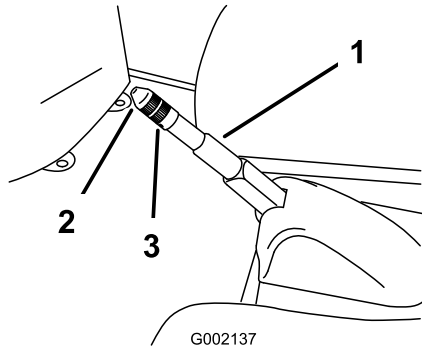

Figure 33
2. Loosen the set screw securing the knob to the parking brake lever (Figure 33).